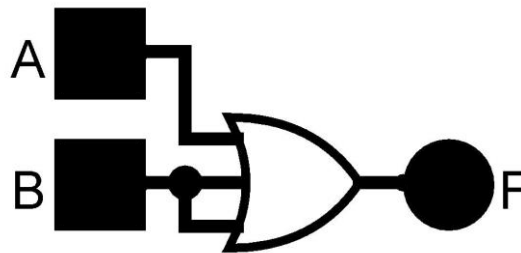

Figure 3(c)
- (c) Explain the reason for connecting input B as shown in Figure 3(c). Show using diagram another method of connection that is also performing the same outcome. Assume that Figure 3(c) is a TTL gate. The solution should include the truth table. (6 marks)
- (d) Figure 3(d) has three inputs (A, B, C) and two outputs (Y, Z).
(ii) Determine the maximum operating frequency that can be applied to Figure 3(d) without affecting its functionality. Show all working clearly.